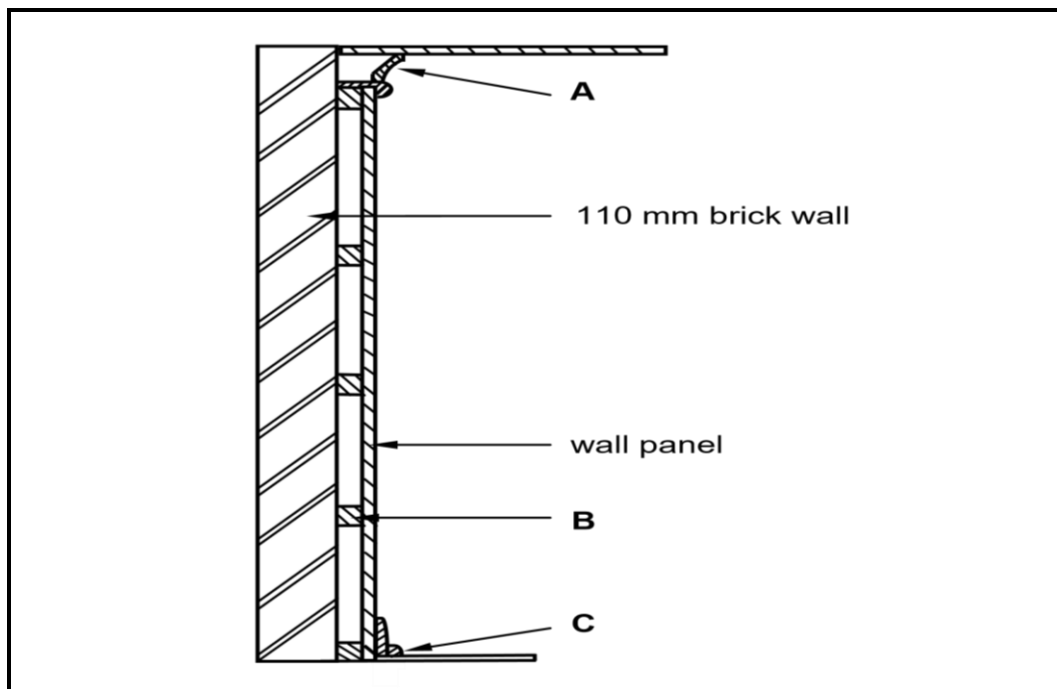

FIGURE 3.5
- 3.5 FIGURE 3.5 below shows the sectional view of a tongue and groove wall panel from floor to ceiling, fastened to a 110 mm thick wall. Study the drawing and answer the questions that follow.